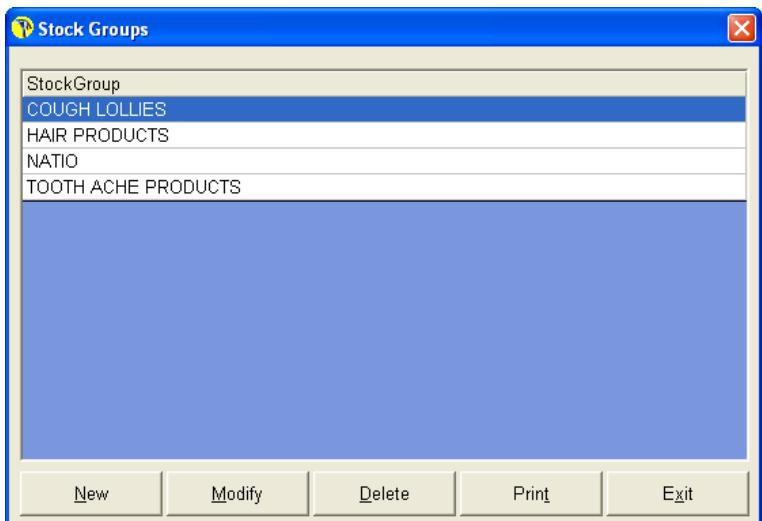

Figure 192
2. The 'Stock Groups' window will be displayed (as shown in Figure 192).
13. You can modify or delete an existing Stock Group by selecting the Modify or Delete buttons (as shown in Figure 192).